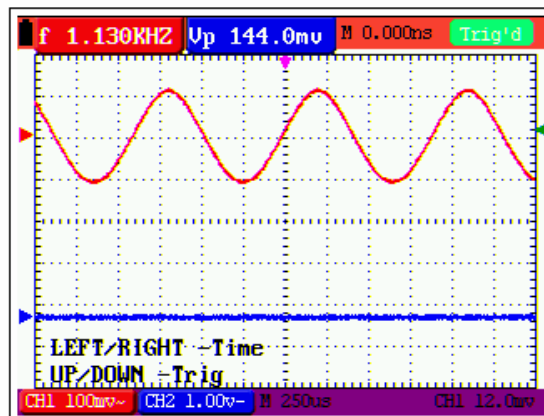

Figure 10: Trigger Level Position
9. Press **OSC OPTION** key once more and the following appears at the bottom left of the screen, shown as the following figure 10: